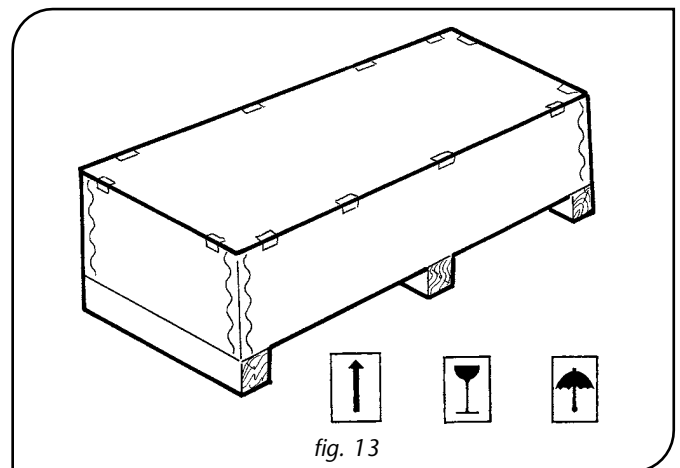

fig. 13
- In some cases the DRH hoist and related trolleys can be contained in a chest or a wooden cage, carrying signs and pictograms which give important information regarding its handling and transportation (fig 13).